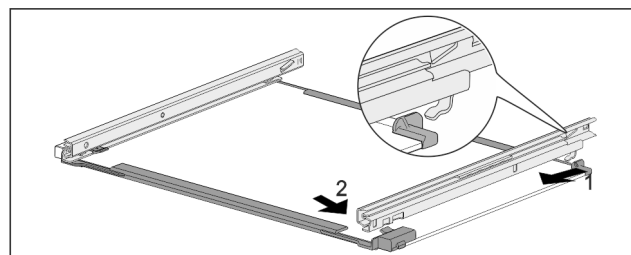

Fig. 158 Glass shelf with rails
- Hook in rail at the back. Fig. 158 (1)
- Hook in rail at the front. Fig. 158 (2)